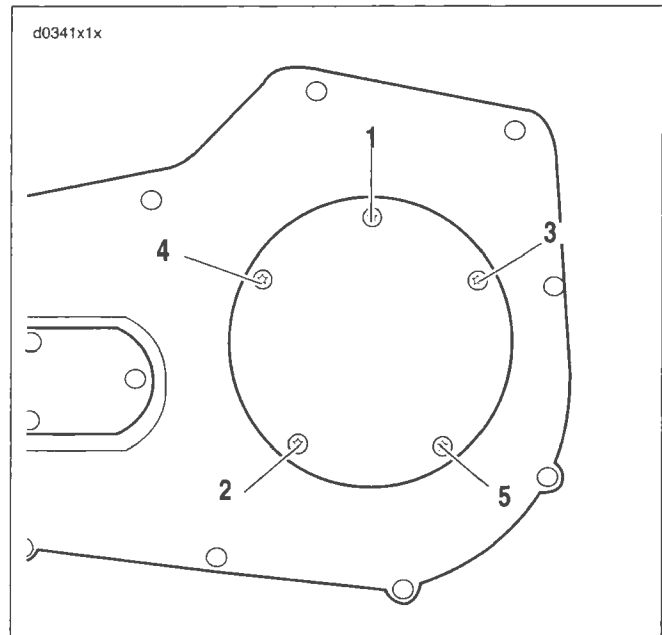

Figure 1-28. Clutch Cover Torque Sequence
- f. Alternately tighten screws to 84-108 **in-lbs** (9.5-12.2 Nm) following torque sequence shown in Figure 1-28.